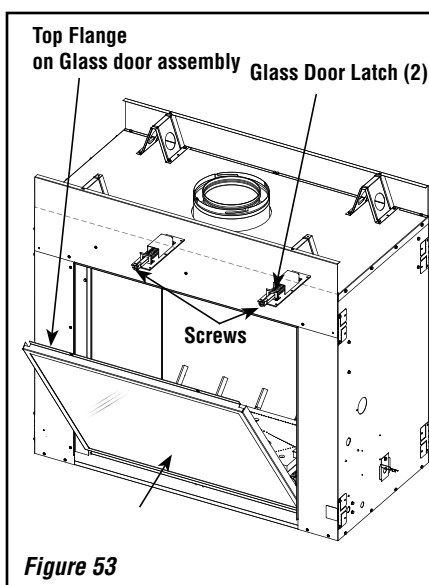

Figure 53
Installing Glass Doors, and Modesty Panel (see Figure 53)
- b) Position the door in front of the firebox opening, with the top of the door held away from the fireplace (see **Figure 53**).
- d) Using a #3 Phillips screwdriver, fasten the door frame to the door latches with the two (2) latch screws. The latches should pull forward to engage the door frame.
Removing Glass Doors, Barrier, and Modesty Panel (see Figure 53)
- a) See **Figure 53**. While holding the top of the glass door frame in place, use a #3 Phillips screwdriver to remove the two (2) screws securing the door frame to the two (2) door latches.
- b) Carefully tilt the top of the glass door frame away from the unit (as shown in **Figure 53**), and then lift the door assembly up and out of the lower track.